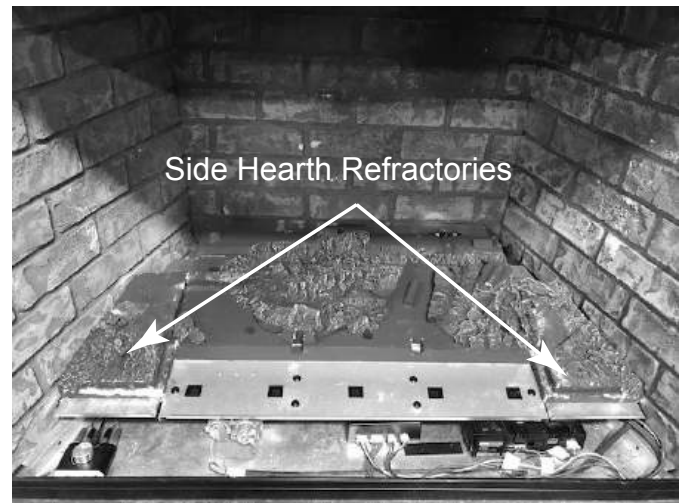

Figure 11.12
- Set Left & Right Side Hearth Refractories onto side brackets, as shown. Position side hearth refractories as shown See Figure 11.12.